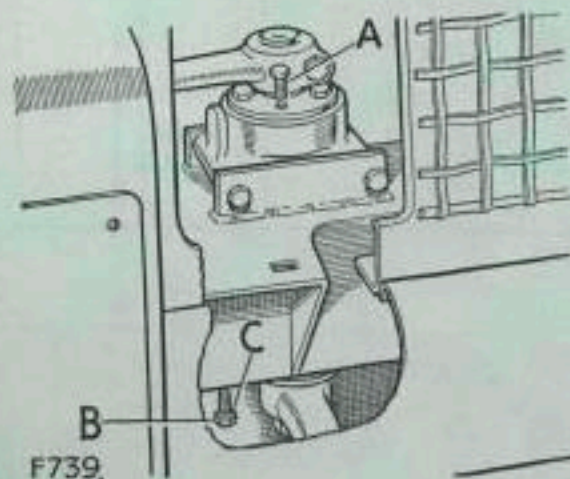

Fig. 2. Oil fill and bleed points for steering relay housing
1. Fill unit with oil through any of the top oil seal housing fixing bolt holes, and bleed through the bottom oil seal housing fixing bolt hole in line with the boss on the relay housing. The bottom bolt to be sealed under the head with a suitable sealing compound. See Fig. 2.